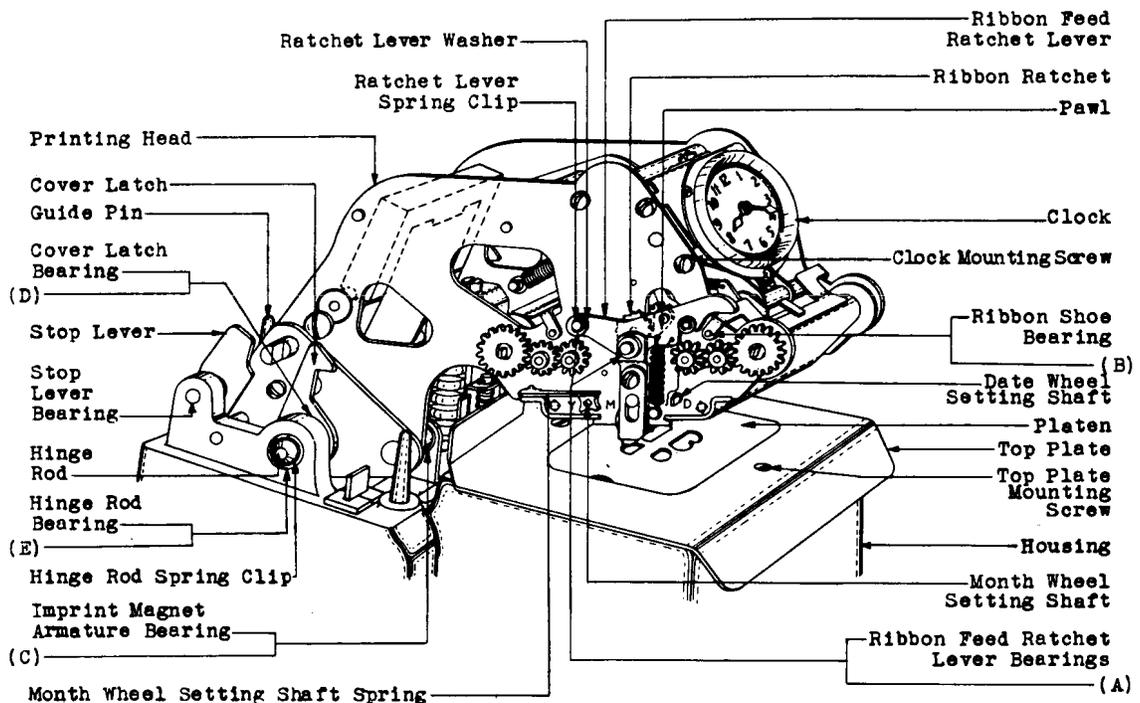

Fig. 1 - Stromberg Time Stamp
- Ribbon Feed Ratchet Lever Bearings and Associated Gear Train Bearings - Fig. 1 (A)
- Ribbon Shoe Bearing - Fig. 1 (B)
- Imprint Magnet Armature Bearings - Fig. 1 (C)
- Cover Latch Bearings - Fig. 1 (D)
- Hinge Rod Bearings (at housing and printing lead) - Fig. 1 (E)